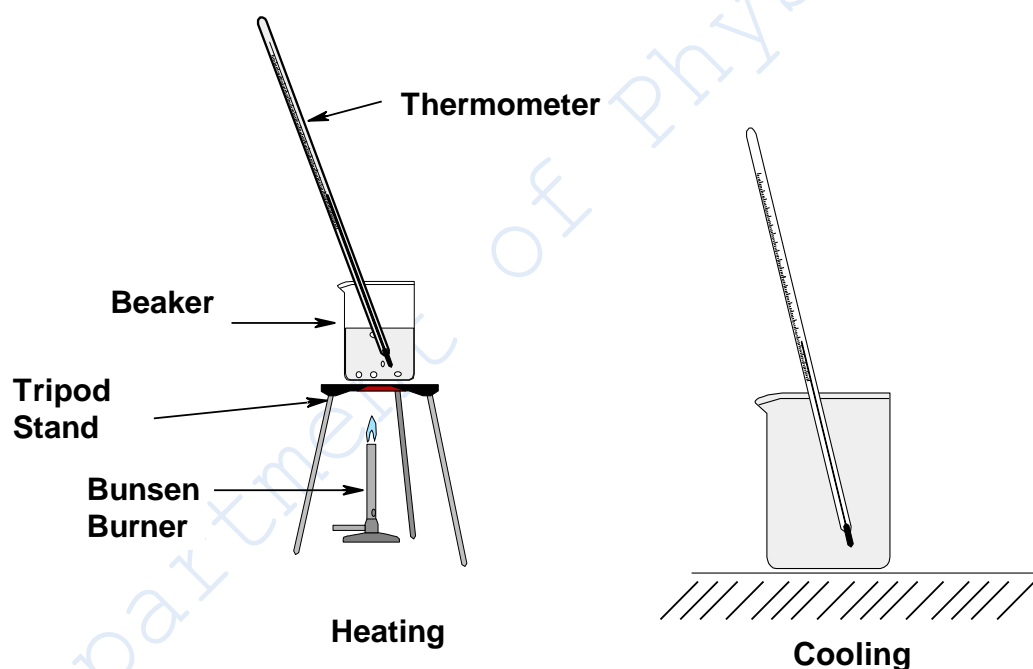

Figure 11-1
1. Heat the liquid to temperature close to 60°C as shown in Fig 11.1. and thereafter withdraw the source of heat from the liquid.